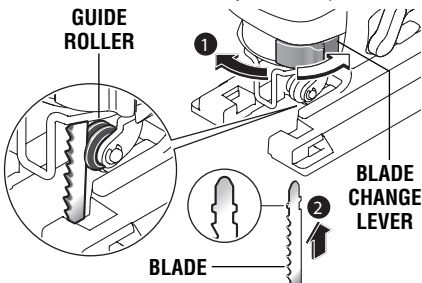

FIG. 2a
3. Insert the saw blade (teeth in cutting direction) until it the "T" part of the blade shank is completely inserted in to the blade clamp. (When inserting the saw blade, the back of the blade must rest in the groove of the guide roller) (Fig. 2a.)